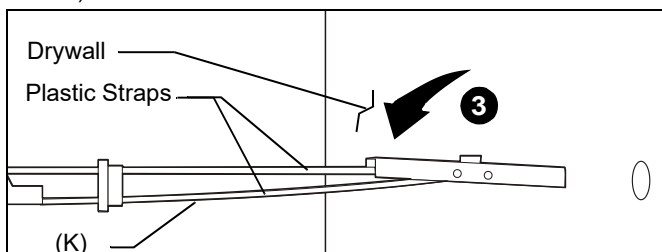

Figure 10
3. Hold metal channel on toggle anchor (K) flat alongside plastic straps and slide channel through hole (See Figure 10)